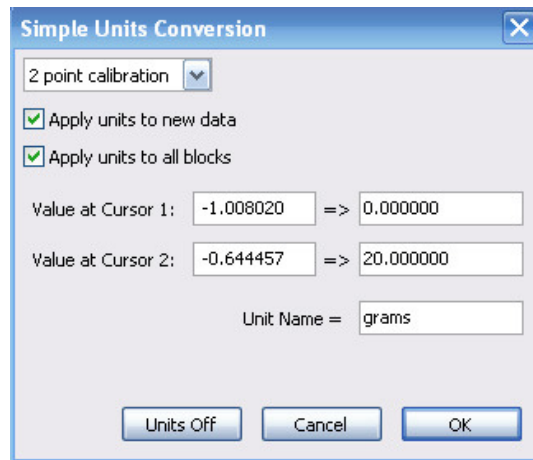

Figure FB-1-L3: The Simple Units Conversion dialogue window with the voltages at the cursors set to equal the weight used in calibration.
5. The Simple Units Calibration window will appear (Figure FB-1-L3). On this window: